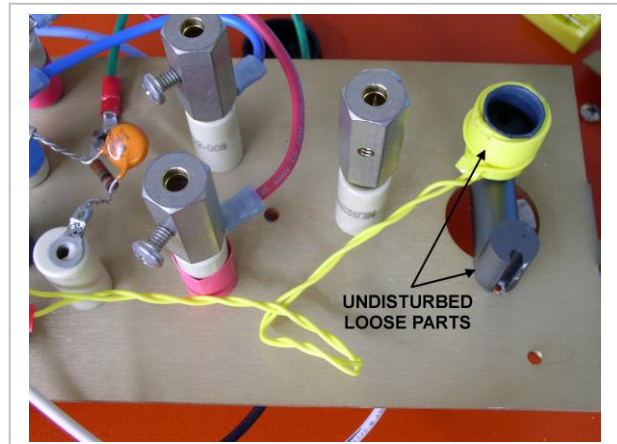

Figure 18b
- Lift the HV coil from the bottom half of the ferrite core and try to leave the rest of transformer parts in place as shown in Figure 18b.